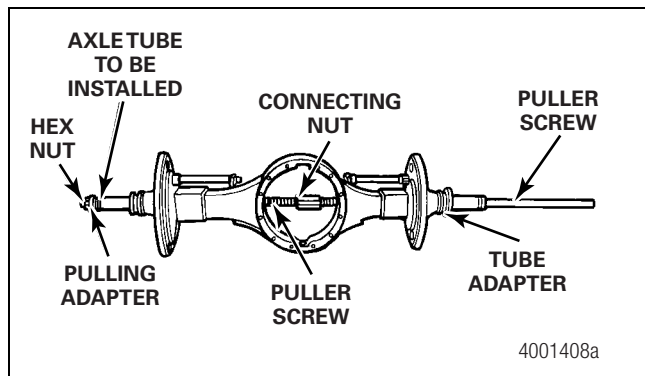

Figure 5.17
1. Install the two puller screws into the axle housing. Connect the puller screws with the connecting nut. Figure 5.17.
2. Install the pulling adapter into each end of the axle tube. Figure 5.17.
3. Install the axle tube and the adapters into the housing. Install the hex nut. Figure 5.17.
4. Position the tube adapter at the opposite end of the axle housing. Figure 5.17.